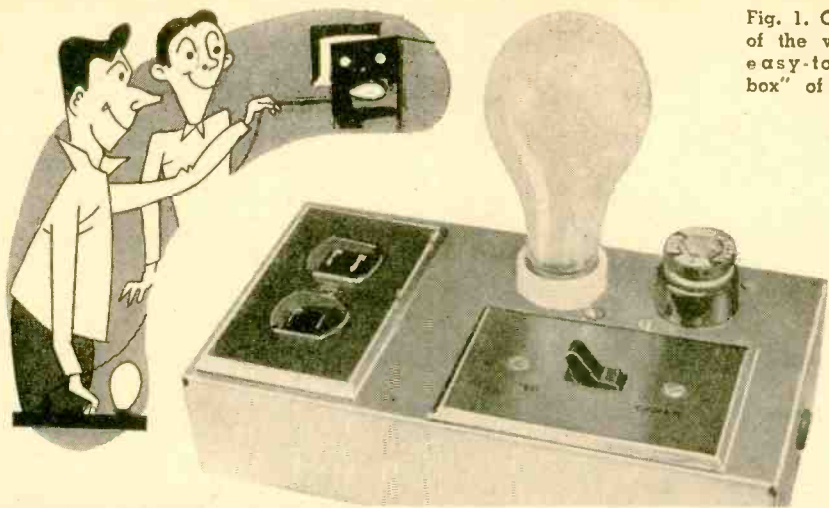

Fig. 1. Over-all view of the versatile and easy-to-build "test box" of many uses.
**Y**OU'LL find a lot of uses in your home lab for the "test box" shown in Fig. 1. With it you can check experimental equipment without fear of blowing a line fuse in case of accidental shorts. You can use it to drop line voltage slightly for checking critical circuits. And you'll find it handy for keeping a soldering iron warm enough for quick use without allowing it to overheat. You can even use it to estimate the approximate wattage rating of electrically operated equipment.